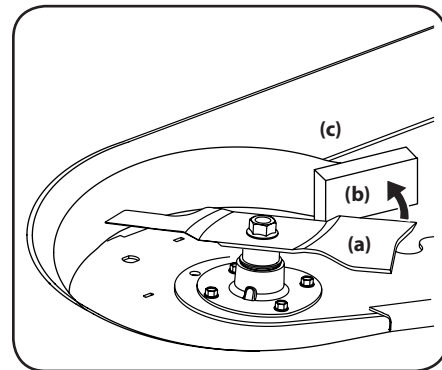

Figure 4-18
3. Wrap a rag around one end of the blade (a) and grasp it to prevent it from turning, or secure the blade (a) by placing a block of wood (b) between the blade (a) and the deck housing (c). See Figure 4-18.